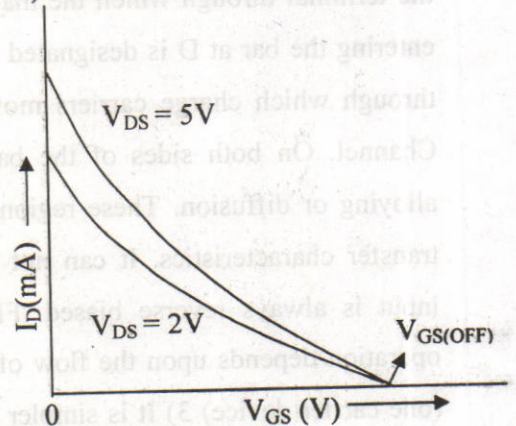

Fig.5.4
8. Mark the observed points and join them by smooth curves as shown in Fig.5.4.